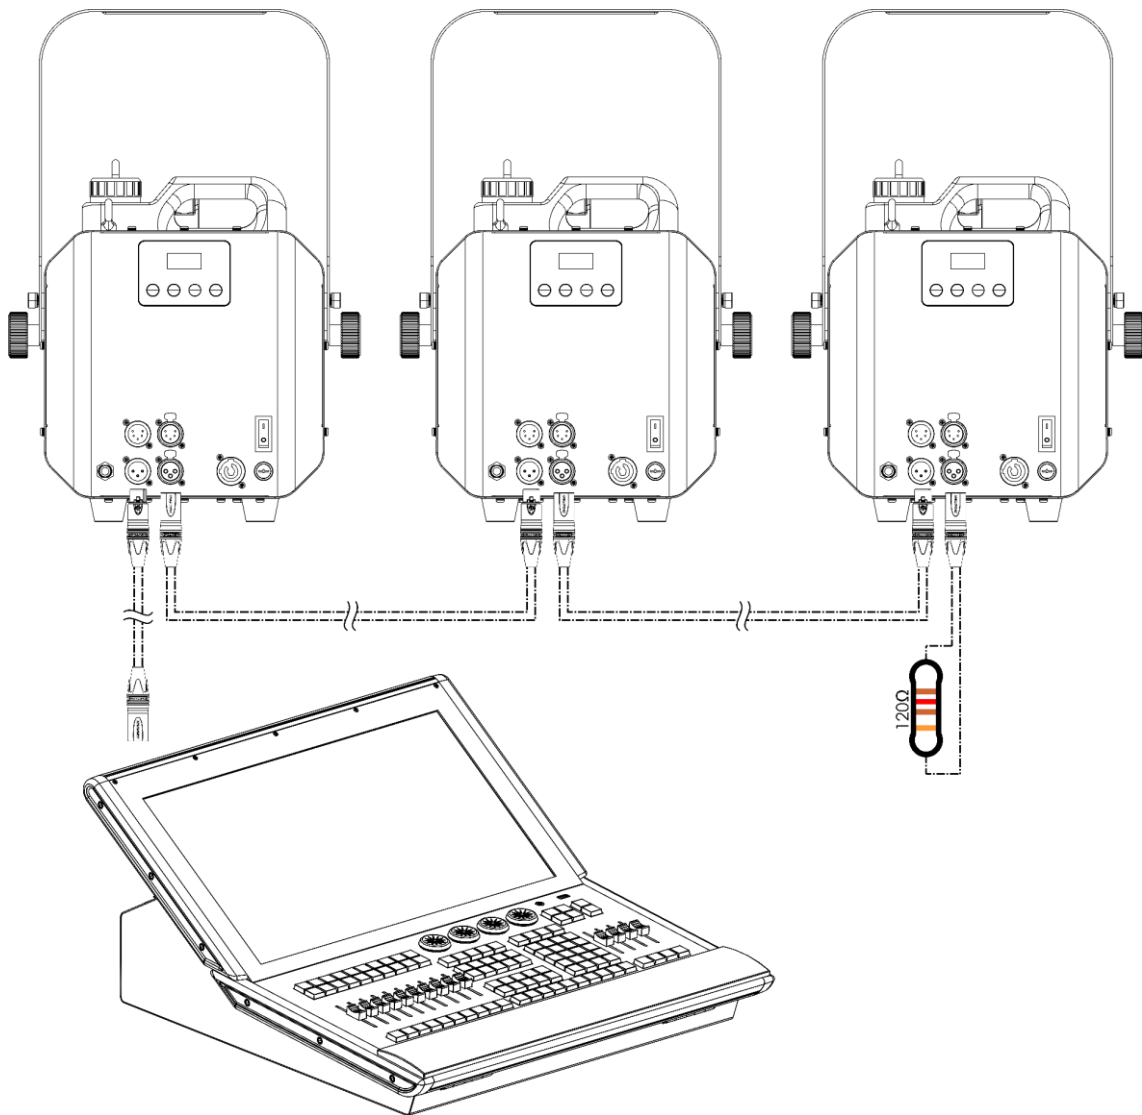

Fig. 07
- 03) Repeat step 2 to connect all devices in a daisy-chain as shown in Fig. 07.